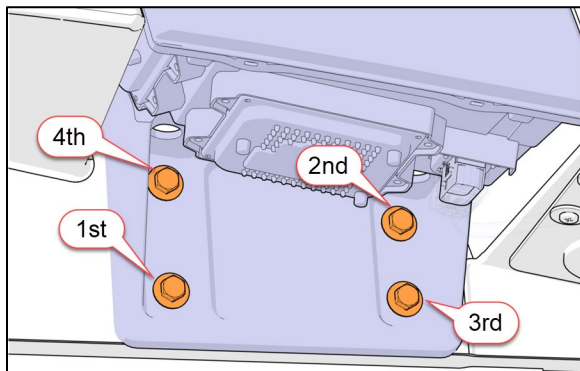

FIGURE 99
9. With the bolts slightly tighten, center the headlight module in the opening to distribute the play evenly on each side (Figure 99).